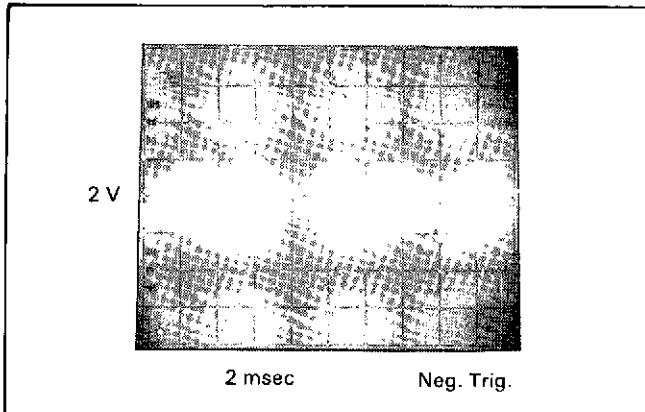

Figure 8-B-3. A/D Zero Waveform.
- g. Place the A/D Test Jumper A20J29 (Schematic 4) in the GND position, as shown in Figure 8-B-1.
- i. Connect the vertical input of an oscilloscope to A20TP405 (use ground #4 as low). With the scope in the external trigger mode, connect the trigger input to TP404. Using the scope set-up information in Figure 8-B-3, check the waveform shown in the figure (Schematic 4).
3. Move A30J33/J34 to the "2" (middle) position (Schematic 8), as shown in Figure 8-B-2.